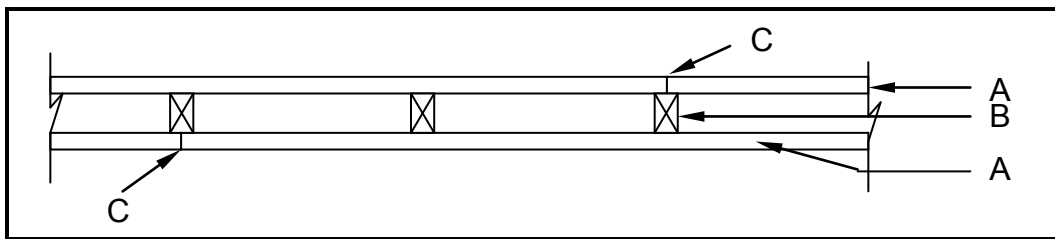

FIGURE 2.4
- 2.4 FIGURE 2.4 below illustrates an incomplete horizontal sectional view through a dry wall. Study the sketch and answer the questions that follow.